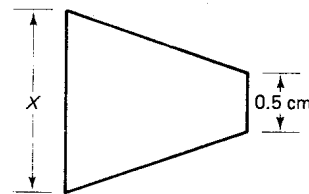

Fig. 3-25
3.45 The trapezoidal pattern of an amplitude-modulated wave having an 85% modulation is shown in Fig. 3-25. Determine the length  $x$  of the larger vertical side.